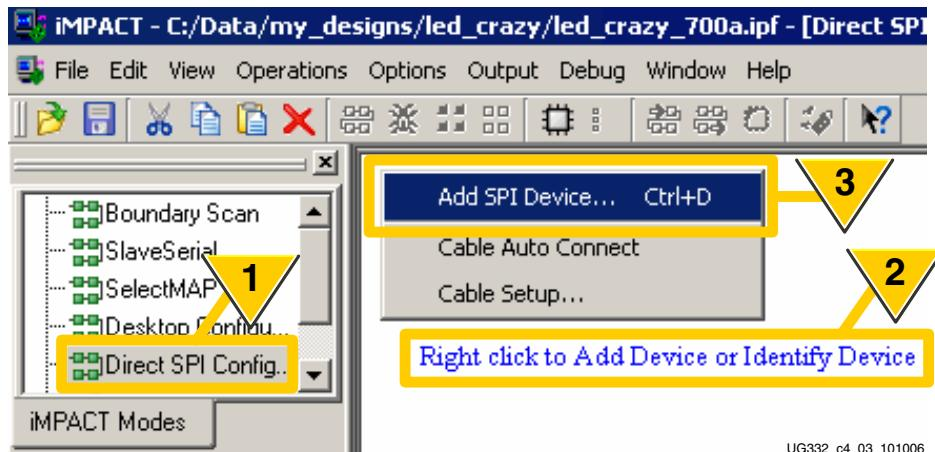

Figure 4-16: iMPACT Supports Direct Programming for SPI Serial Flash Memories.
- Click **Direct SPI Configuration** from within iMPACT, as shown in Figure 4-16.